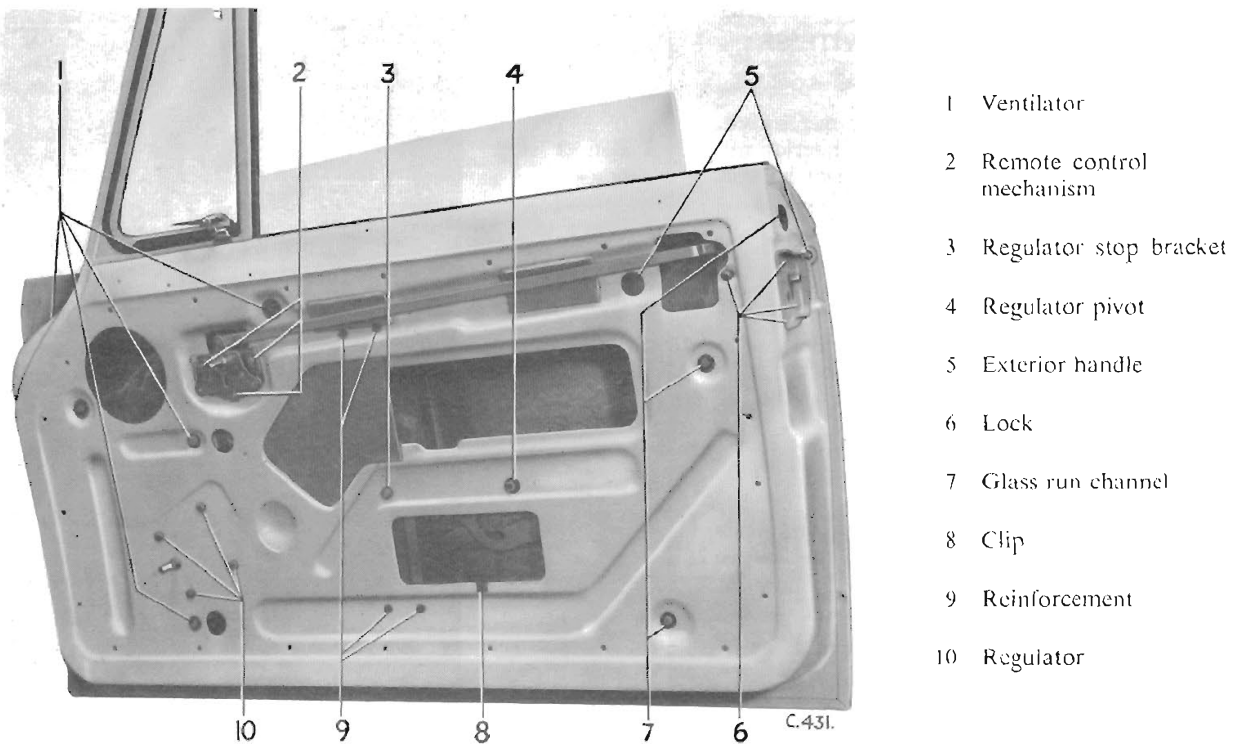

Fig. 47. Location of door component fixings (Herald 1200, 12/50 and Vitesse)
Referring to Fig. 47 take out four screws (9) and remove the inner panel reinforcement (47), Fig. 44, from the door.
### To Remove (Fig. 47)
#### Door Lock—To Remove (Fig. 47)